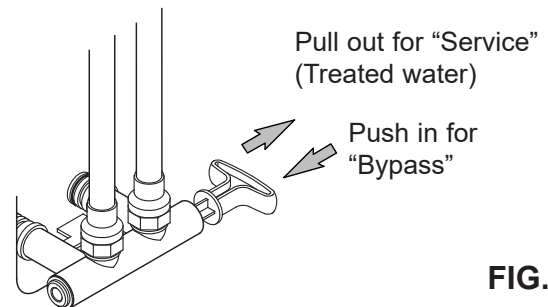
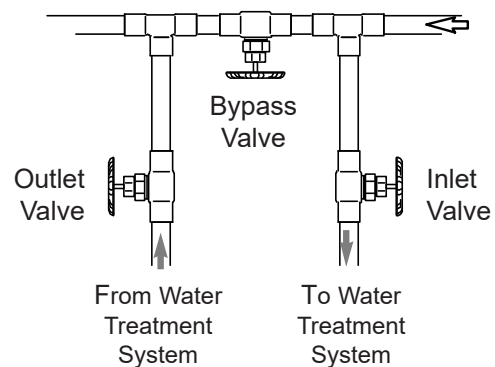

FIG. 7
FIG. 8
Always install either a single bypass valve (provided), as shown in Figure 7, or, if desired, parts for a 3 valve bypass system (not included) can be purchased and assembled, as shown in Figure 8. Bypass valves allow you to turn off water to the softener for maintenance if needed, but still have water in house pipes.
CAUTION: The house cold water pipe (metal only) is often used as a ground for the house electrical system. The 3-valve bypass type of installation, shown in Figure 8, will maintain ground continuity. If you use a plastic bypass valve at the unit, continuity is broken. To restore the ground, do the following:
3. Place bypass valve(s) in "bypass" position (see Figures 7 & 8). On a single valve, slide the stem inward to bypass. On a 3-valve bypass, close the inlet and outlet valves and open the bypass valve.